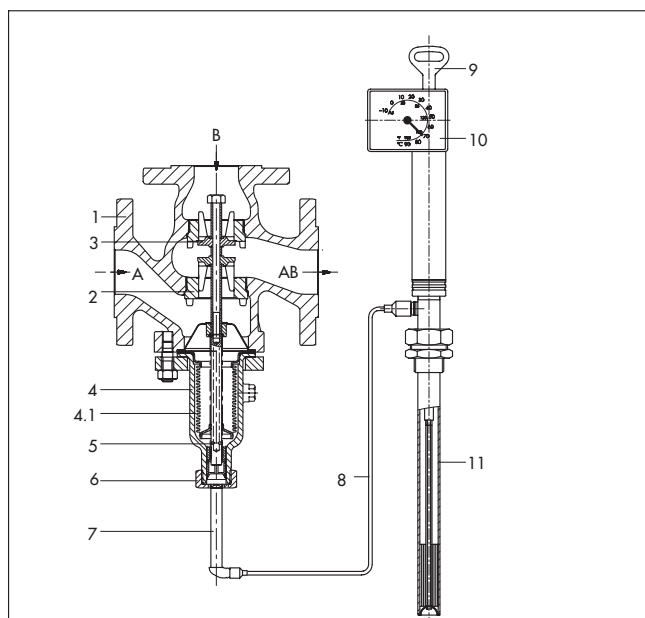

Fig. 3 · Type 9 Temperature Regulator with Type 2231 Thermostat and three-way valve with plug arrangement I, arrows indicate mixing service
Principle of operation (Figs. 3 and 4)
In mixing valves in sizes 1/2" to 4" (15 to 100 mm) according to Fig. 3 with plug arrangement I, the process media to be mixed flows through the valve ports A and B. The combined stream leaves at common port AB. The rate of flow from valve ports A or B to common valve port AB depends on the free area of flow between the seats (2) and the valve plugs (3), and in this way, on the position of the plug stem (5). When the temperature rises, port A opens and port B closes.
The flow-diverting valves in sizes 1/2" to 1" (15 to 25 mm) are supplied with plug arrangement I as shown in Fig. 3. In this case, port A opens and port B closes also in flow-diverting services when the temperature at the sensor rises.